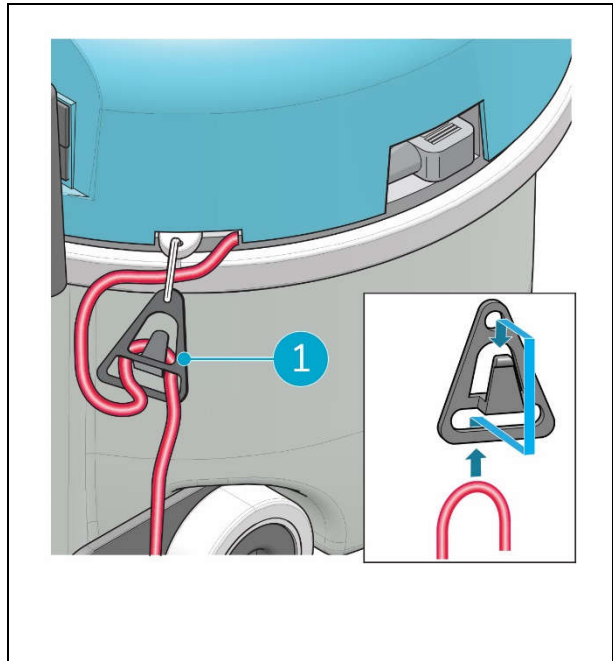

Figure 17
1. Check that the main power cable is placed in the cable strain relief (fig 17, pos 1).